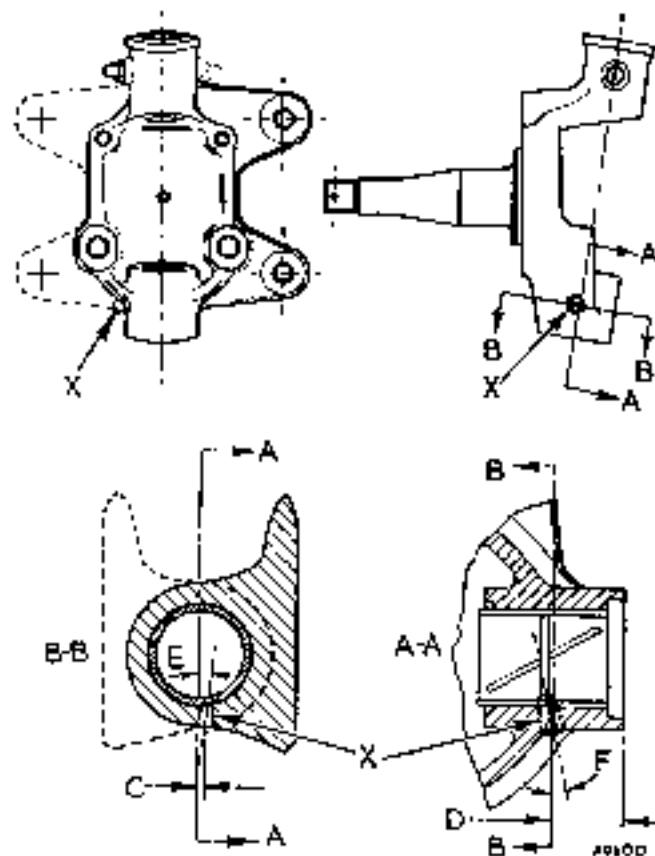

Fig. K.4
- Using a No. 3 (.213 in. (5.41 mm.)) drill, carefully drill each swivel axle in the position shown at 'X' in Fig. K.4.